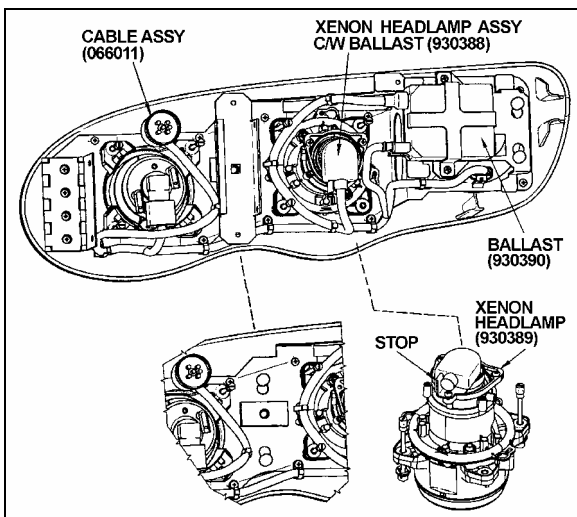

FIGURE 52: XENON HEADLAMP LOCATION
1. Remove the headlight screw fixing the headlight assembly, then pivot headlight assembly out (Figure 37 and Figure 52).